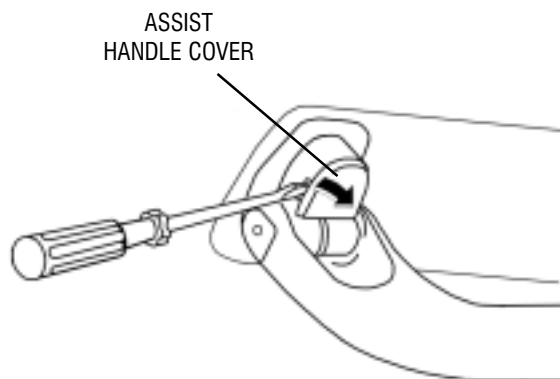

FIGURE 17
- 1.) INSERT A SMALL FLAT TIP SCREWDRIVER INTO THE ASSIST HANDLE NOTCH AND GENTLY PRY TO REMOVE THE ASSIST HANDLE COVERS. (SEE FIGURE 17)